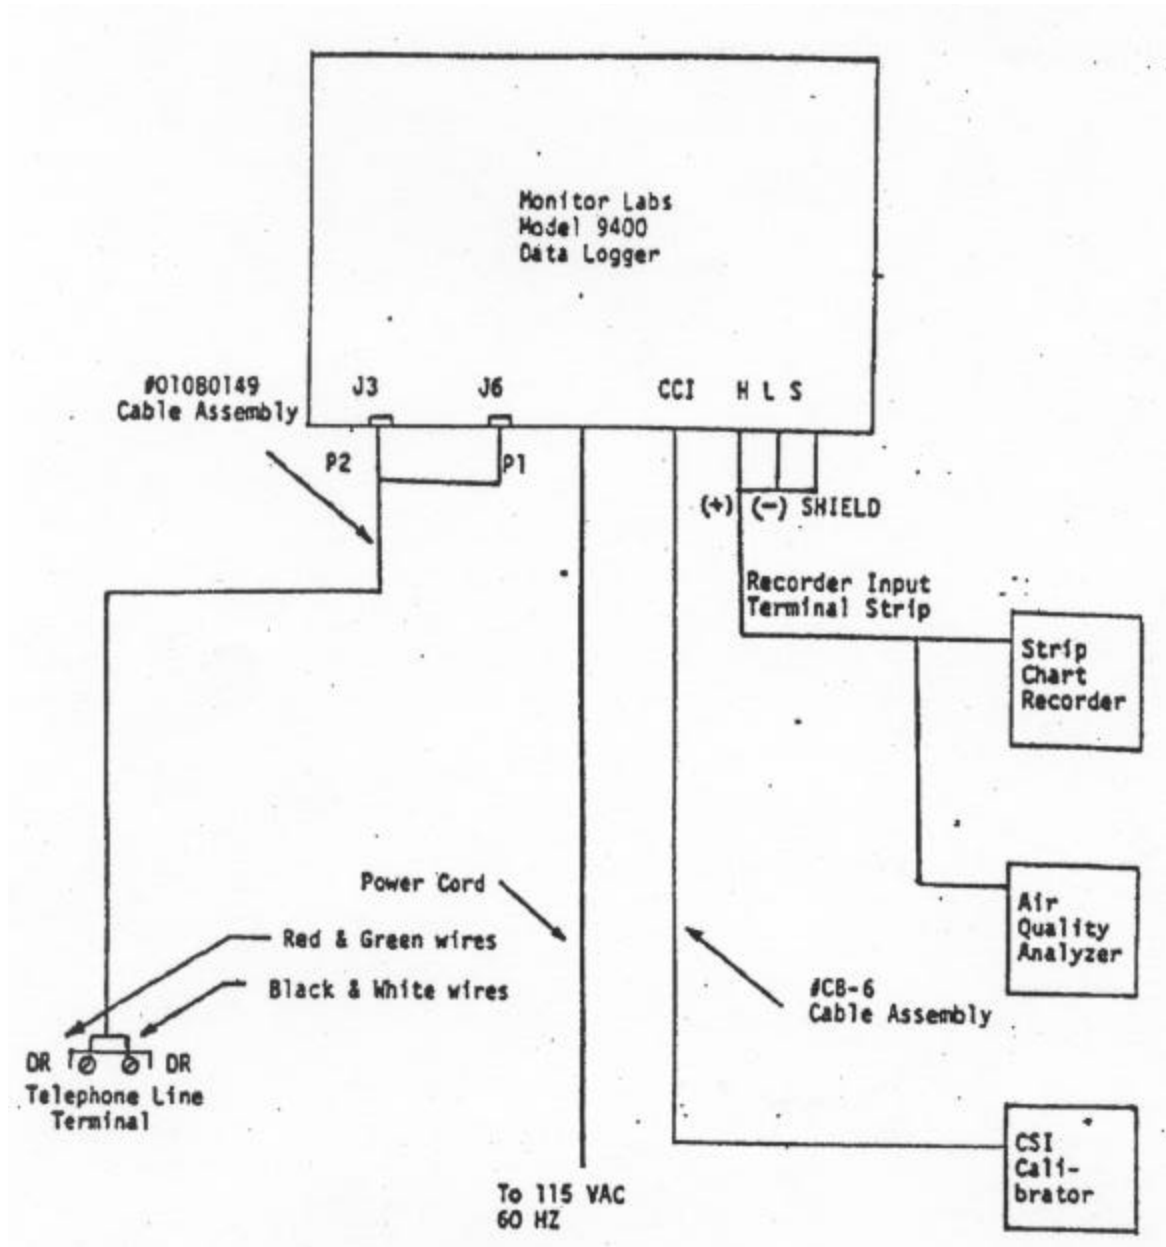
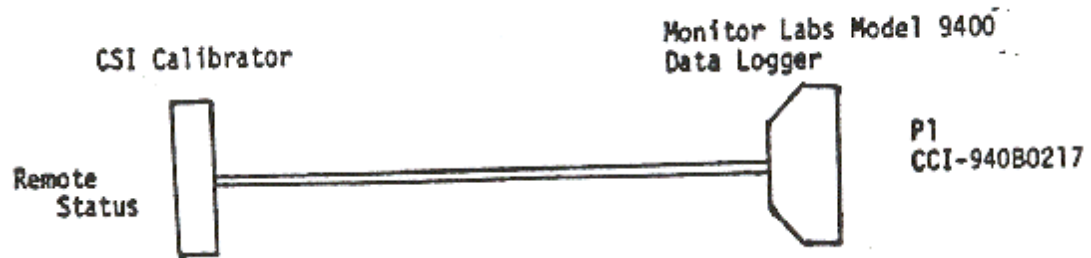
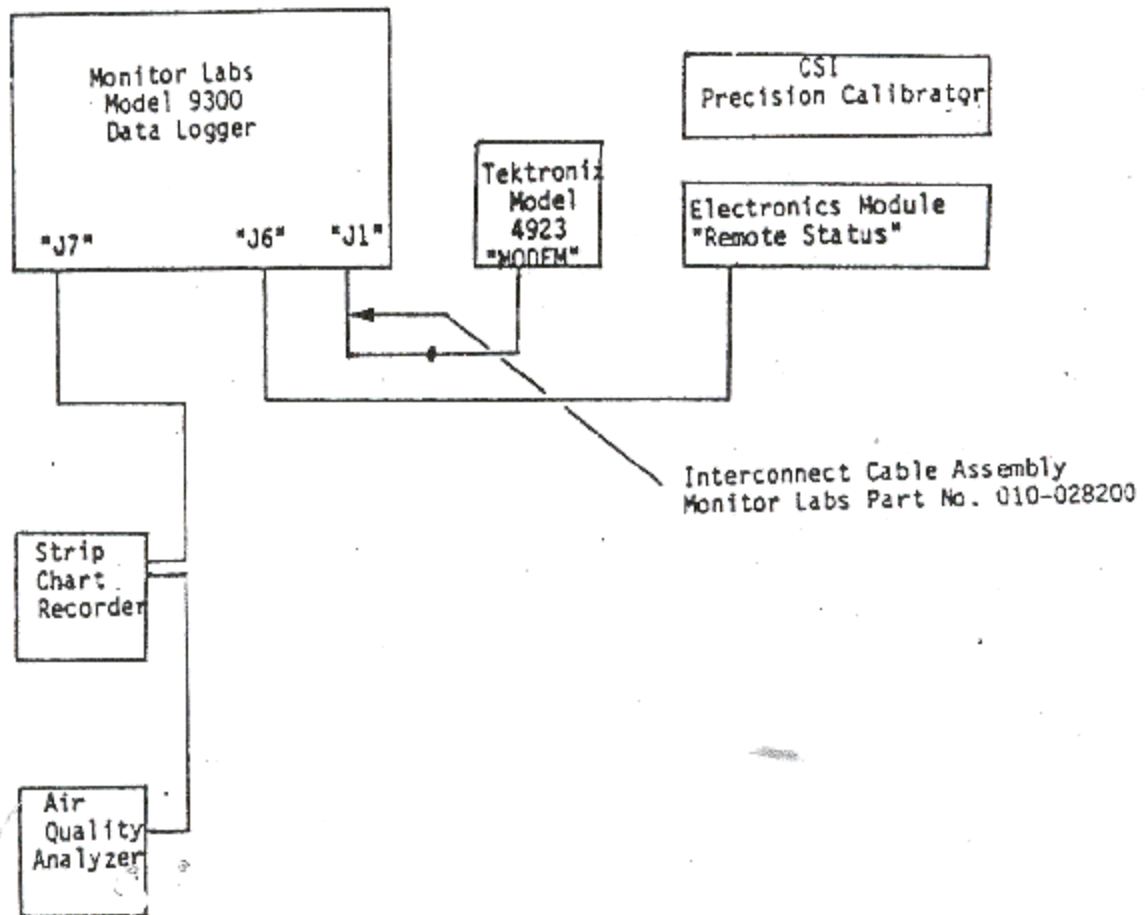

Figure I.1.1.2
Figure I 1.1.3
Figure I.1.1.4
2. Installation - The CSI Precision Calibrator is connected to the Monitor Labs, Model 9400, Data Logger through interface cable #CB- 6. A wiring diagram is shown in Figure I.1.1.2 and a cable diagram is shown in Figure I.1.1.3. The plug marked "CSI" is connected to the receptacle marked "Remote Status" on the rear of the electronics chassis (CSI 1790) of the calibrator. The plug marked "PI-CCI-940217" is connected to the Contact Closure Input (CCI) card at the rear of the Model 9400 Data Logger. The CCI card number is 940B0217.
3. Check Out - After a Data Logger is connected to the calibrator, contact the Instrumentation and Standards Laboratory (916) 323-5926 in Sacramento. They will check the flagging function from the telemetry central and verify that correct analyzer status is being transmitted.
Installation - The CSI Precision Calibrator System is connected to the Monitor Labs, Model 9300, Data Logger through interface cable #CB-5. A wiring diagram is shown in Figure I.1.1.4 and a cable diagram is shown in Figure I.1.1.3. The interface cable has one plug on each end. The plug marked "CSI" is connected to the receptacle on the rear of the electronics chassis of the calibrator marked "Remote Status". The plug marked "J6" is connected to J6 on the rear of the Model 9300 Data Logger. Observe proper orientation of the interface connector with "J6" on the 9300. (It can be installed backwards.) When facing the rear of the Model 9300, J6 is to the left of J7 and below J1.